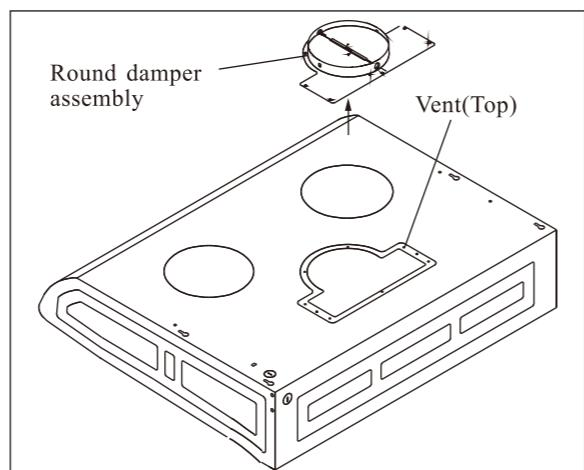

Fig.2 Take out the round damper assembly
(1) For round vent (the standard type), please connect the 6" exhaust duct to the round vent off the machine.
(2) For rectangular vent on the top, please follow the procedures below:
- Take out the round damper assembly from the top. (Fig2)